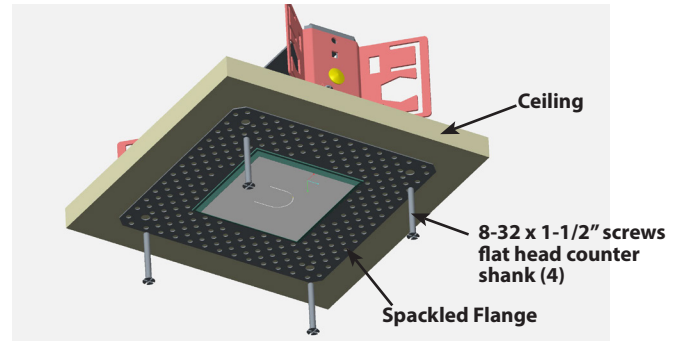

Fig: 3
1. Place **Spackle Flange** on ceiling and align the opening with the ceiling cutout. Carefully mark the (4) hole pattern on ceiling and remove **Spackle Flange**.
2. For New Construction (Fig: 3): Use a 7/32" drill bit to drill ceiling typical 5/8" ceiling depth. Align rib of **Spackle Flange** to rib in **Rough-in**. Insert the **Spackle Flange** and secure with 8-32 x 1-1/2" flat head counter shank machine screws.